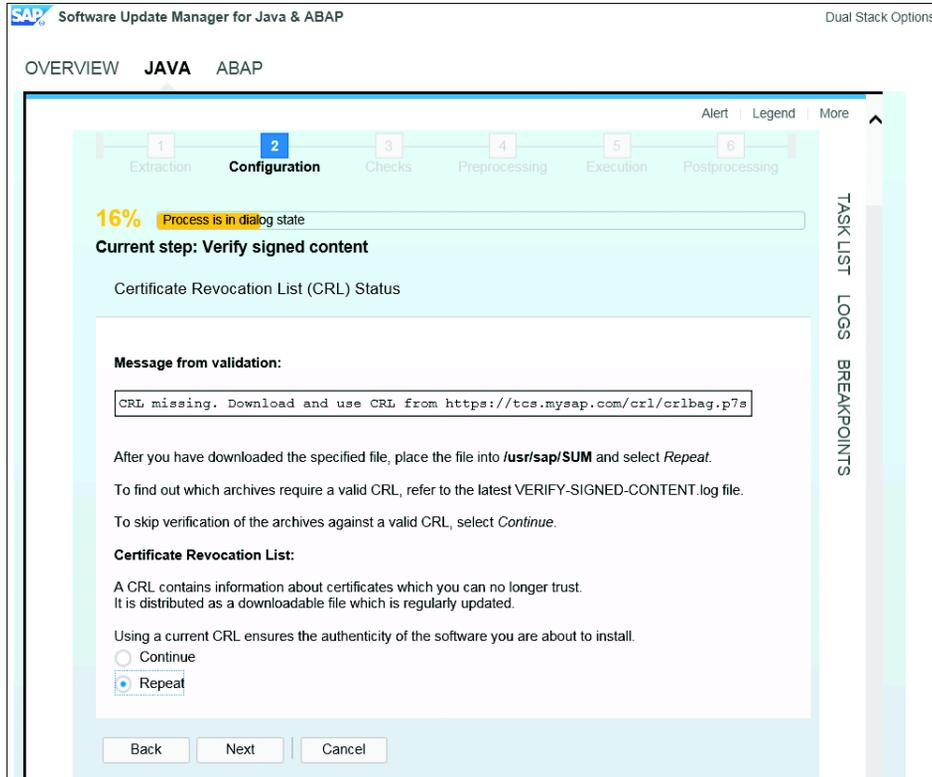

Figure 55 Update Certificate Revocation List
- For the VERIFY SIGNED CONTENT task, verify that you have the latest version of the Certificate Revocation List (CRL). Navigate to DOWNLOAD CRL at <https://tcs.mysap.com/crl/crlbag.p7s>. Then, transfer the upgrade install files to the install media directory. Select REPEAT or CONTINUE. This will take you back to the previous step. Select NEXT to continue (see Figure 55).